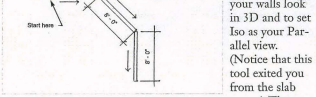

Figure 1
8. Press the [Insert] key until the input mode is set to Relative Polar. Follow figure 1 to create one side of your kitchen, composed of three wall slabs, each 8 feet long. Press the space bar to input the length and direction of the angled wall.